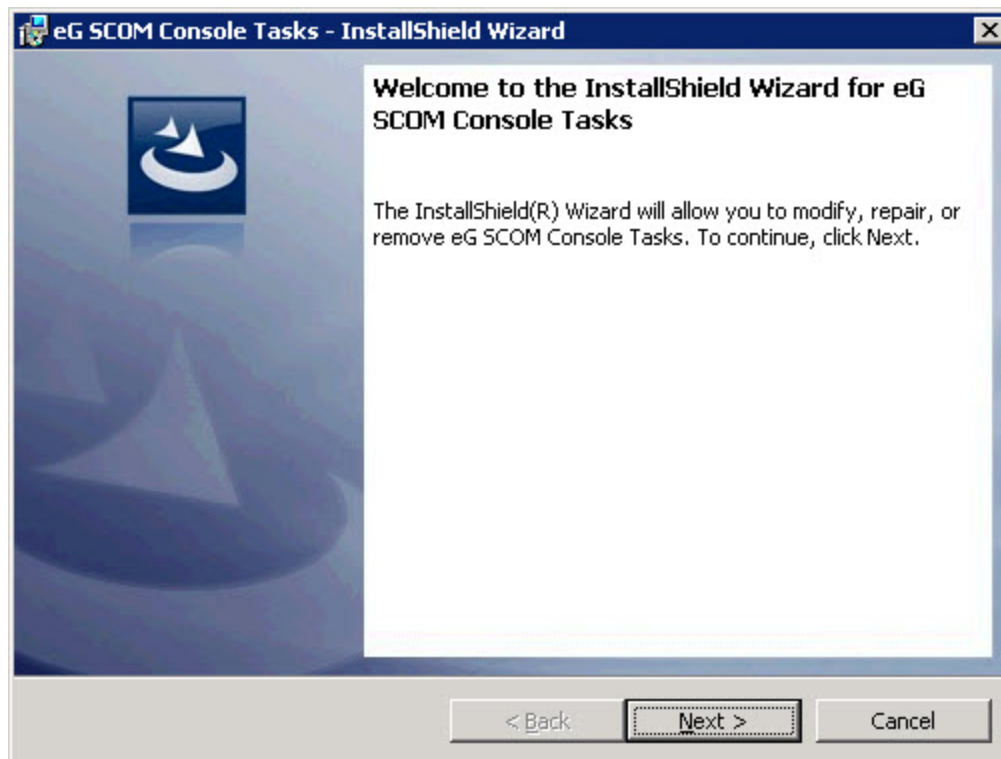

Figure 4.51: Uninstalling the eG SCOM Console Tasks application
4. Figure 4.51 will then open. Click the **Next** button to proceed.